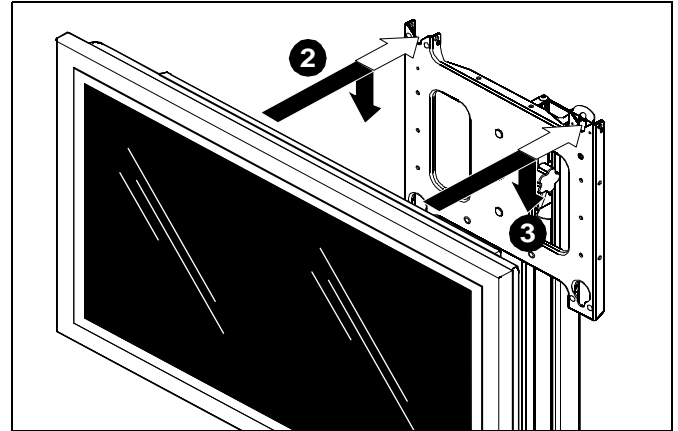

Figure 12
2. While supporting both sides of display, align four mounting buttons on display or interface bracket with four mounting holes in head assembly. (See Figures 12 and 13)
3. Lower display into place listening for audible "click" to ensure recessed area of mounting buttons are properly seated in lower area of mounting holes. (See Figures 12 and 13)